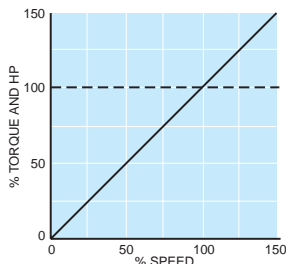

Figure 21. Constant Torque
1. Constant Torque (Figure 21)